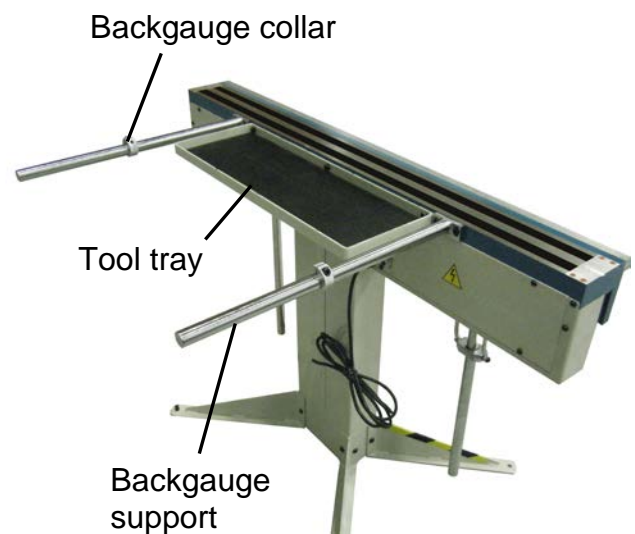

figure 4
Using (3) M8x12 socket cap screws attach the tool tray to the back of the brake. Lay the rubber mat into the tray. Attach each backgauge bar to the brake with (2) M8x16 socket capscrews. Tighten securely. Slide a backgauge collar onto each bar as shown in (fig. 4).